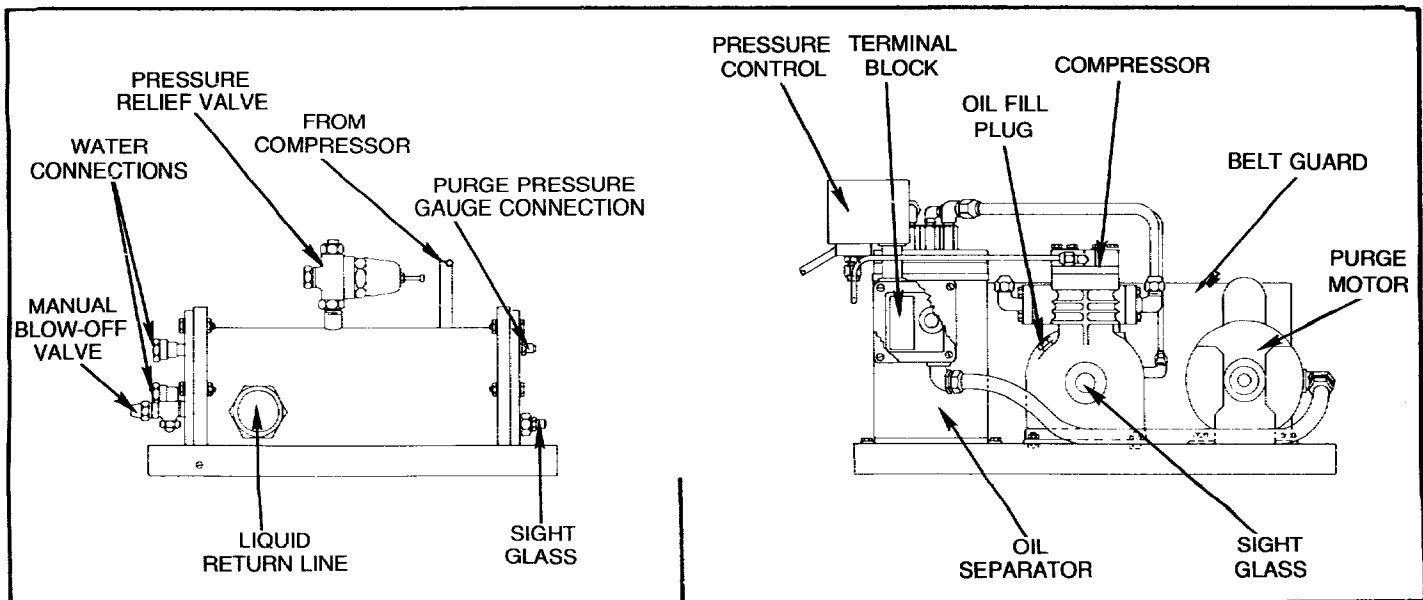

FIGURE 22 - Purge Unit Components (CVHE Units thru "D"-Design Only)
8. Slowly remove the oil filler plug (shown in Figure 22) from the purge compressor crankcase to relieve the pressure in the system.
When water is observed, turn off the purge compressor and open the blow-off valve (Figure 22) until all of the water has drained away.